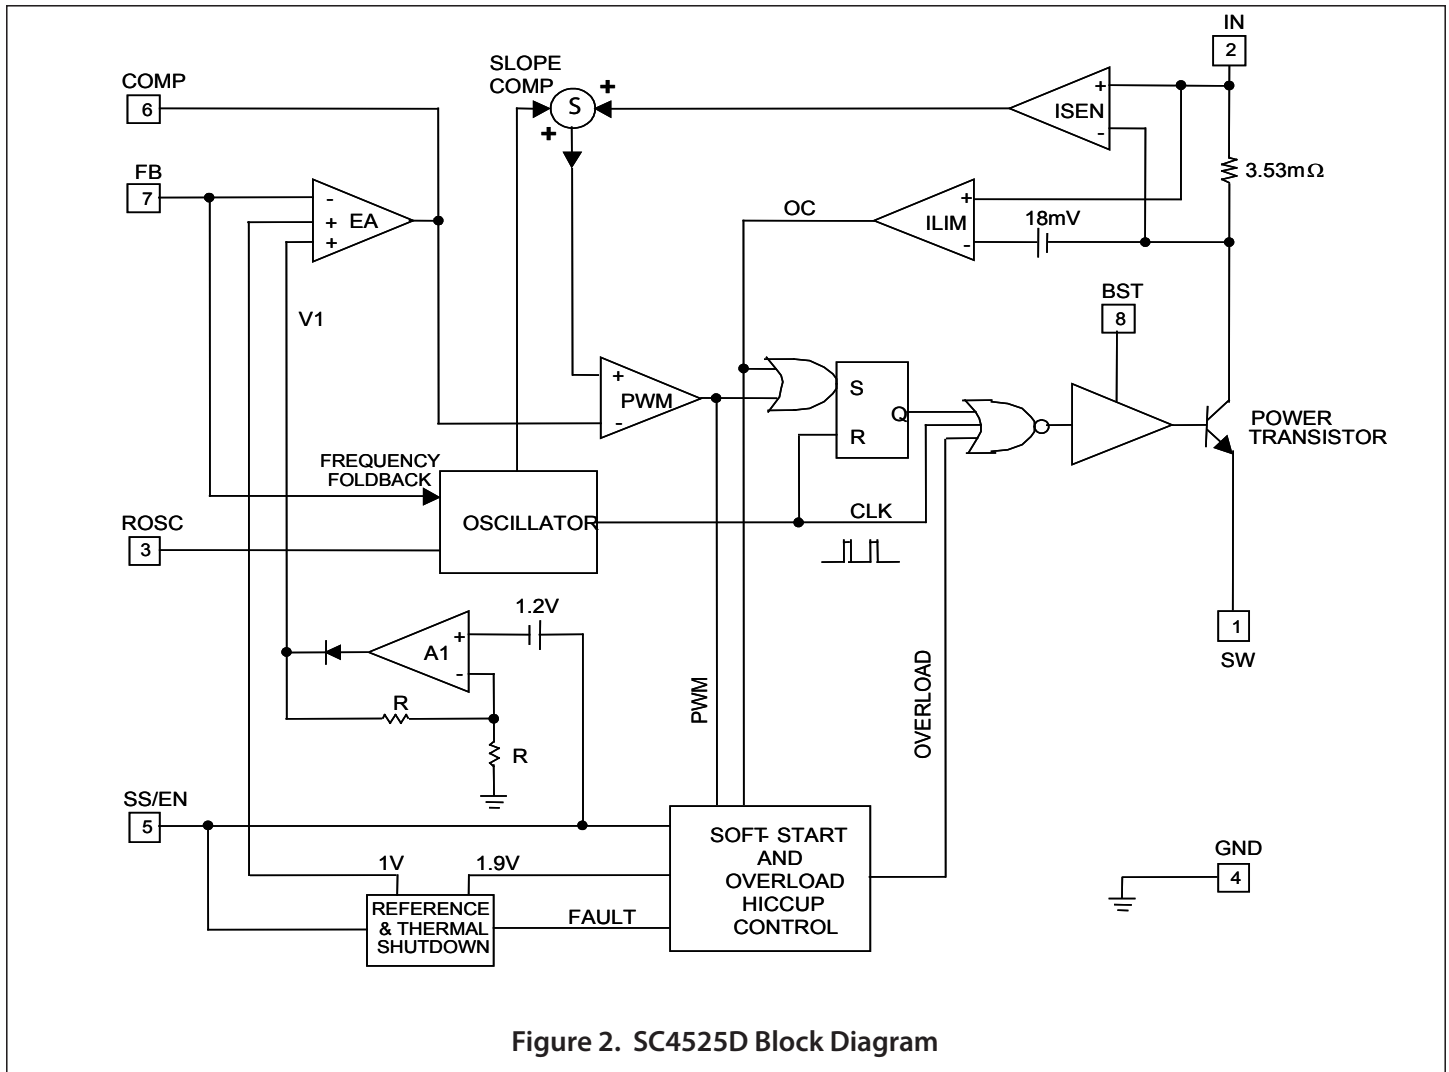

Figure 2. SC4525D Block Diagram
As shown in Figure 2, the switch collector current is sensed with an integrated 3.53mΩ sense resistor. The sensed current is summed with a slope-compensating ramp before it is compared with the transconductance error amplifier (EA) output. The PWM comparator trip point determines the switch turn-on pulse width. The current-limit comparator ILIM turns off the power switch when the sensed signal exceeds the 18mV current-limit threshold.
The error amplifier EA in Figure 2 has two non-inverting inputs. The non-inverting input with the lower voltage predominates. One of the non-inverting inputs is biased to a precision 1V reference and the other non-inverting input is tied to the output of the amplifier A_1 . Amplifier A_1 produces an output $V_1 = 2(V_{SS/EN} - 1.2V)$. V_1 is zero and COMP is forced low when $V_{SS/EN}$ is below 1.2V. During start up, the effective non-inverting input of EA stays at zero until the soft-start capacitor is charged above 1.2V. Once $V_{SS/EN}$ exceeds 1.2V, COMP is released. The regulator starts to switch when V_{COMP} rises above 0.4V. If the soft-start interval is made sufficiently long, then the FB voltage (hence the output voltage) will track V_1 during start up. $V_{SS/EN}$ must be at least 1.83V for the output to achieve regulation. Proper soft-start prevents output overshoot. Current drawn from the input supply is also well controlled.
the regulator, the current-limit comparator ILIM (Figure 2) will eventually limit the switch current on a cycle-by-cycle basis. The over-current signal OC goes high, setting the latch B₃. The soft-start capacitor is discharged with (I_D - I_C) (Figure 3). If the inductor current falls below the current limit and the PWM comparator instead turns off the switch, then latch B₃ will be reset and I_C will recharge the soft-start capacitor. If over-current condition persists or OC becomes asserted more often than PWM over a period of time, then the soft-start capacitor will be discharged below 1.9V. At this juncture, comparator B₄ sets the overload latch B₂. The soft-start capacitor will be continuously discharged with (I_D - I_C). The COMP pin is immediately pulled to ground. The switching regulator is shut off until the soft-start capacitor is discharged below 1.0V. At this moment, the overload latch is reset. The soft-start capacitor is recharged and the converter again undergoes soft-start. The regulator will go through soft-start, overload shutdown and restart until it is no longer overloaded.
The PWM latch in Figure 2 is reset every cycle by the clock. The clock also turns off the power transistor to refresh the bootstrap capacitor. This minimum off time limits the attainable duty cycle of the regulator at a given